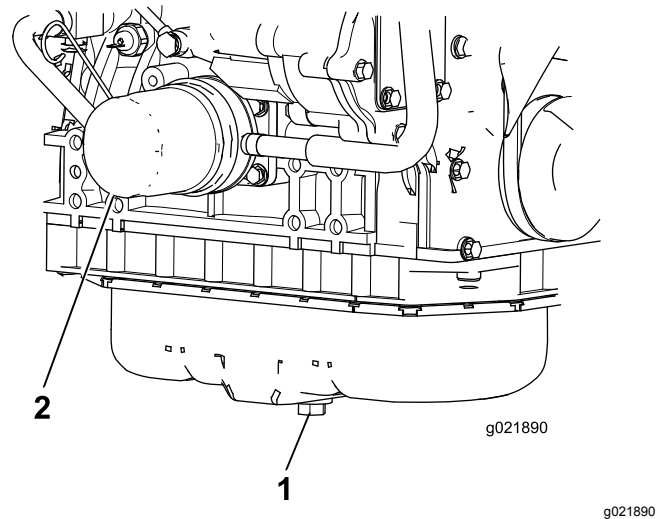

Figure 69
1. Remove the oil-drain plug (Figure 69) and let the oil flow into a drain pan. When all the oil is drained, install the drain plug.
2. Remove the oil filter (Figure 69). Apply a light coat of clean oil to the new filter seal before screwing it on. **Do not overtighten.**